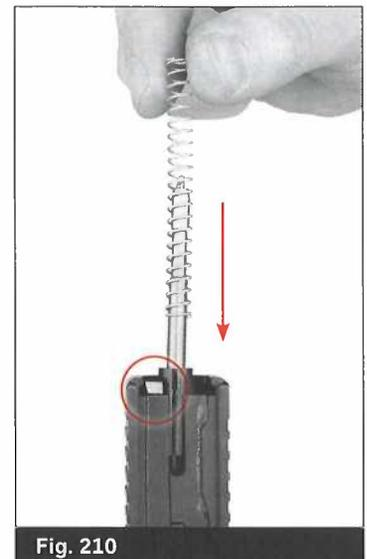

Fig. 210
- Use the slide to assist you in reassembling the firing pin assembly. Install the firing pin assembly upside down into the firing pin channel cut and turn the lug to one side. This will secure the assembly and assist you in replacing the spring cups and firing pin spring. (Fig. 210)